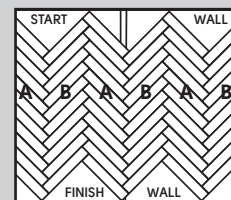

Fig. 8
9. Continue installing 'B' planks. Repeat on the other side of the row of original 'B' planks with the 'A' planks. Complete the installation, using the same method whilst keeping the expansion spacers in place and the pattern square (Fig 8).